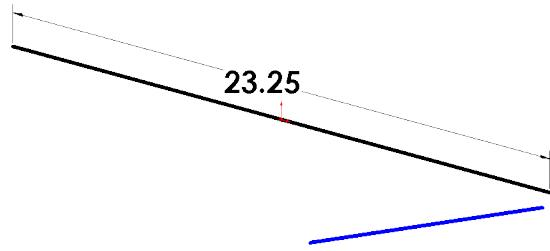

Fig. 5
Step 11. Draw a line away from first line at an angle or not on Z axis (no Yellow Z), Fig. 5. Cursor